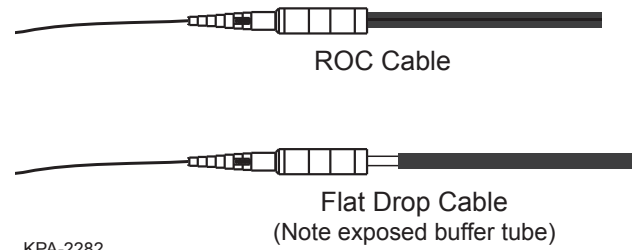

Figure 5 — Install Furcation Body
- Step 2:** Thread the body onto the buffer tube and turn clockwise five to seven turns for ROC cable or three to four turns for flat drop cable (Figure 5).